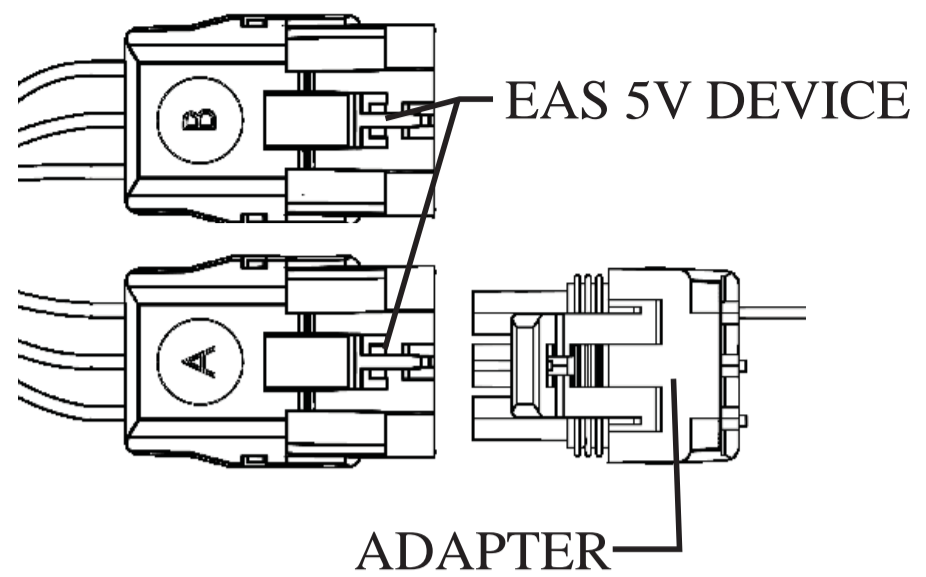

Figure 16
5) Route the remaining connector and wire to the Universal Sensor Input Device. See Figure 16.
4) Plug the adapter connector into one of the device connectors. (See Figure 16 pg.13)